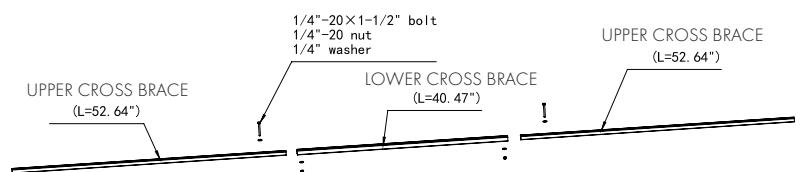

FIGURE 6
Assemble two **UPPER CROSS BRACES (#11)** to one **LOWER CROSS BRACE (#10)** by using (2) 1/4"-20 x 1-1/2" bolts, (2) 1/4" lock nuts and (4) 1/4" flat washers. **Repeat this step** to assemble the other seven cross braces (Figure 6). **Tighten nuts and bolts. Be sure to not over tighten.**